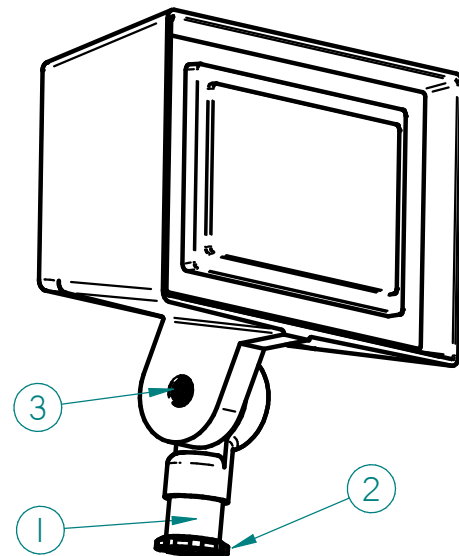

FIGURE 1
Mounting The Fixture (See Fig. 1)
- Thread fixture onto electrical box using the 1/2-14 threads on knuckle (Item 1 in Fig. 1).
- Once fixture is pointing in the desired direction, tighten the lock nut (Item 2 in Fig. 1) to the electrical box to prevent any further rotation.
- Loosen the bolt (Item 3 in Fig. 1) on the knuckle using a 3/16" hex key to allow the fixture to be aimed up or down.
- Once the fixture is aimed at the desired target, tighten the bolt (Item 3 in Fig. 1) on the knuckle.